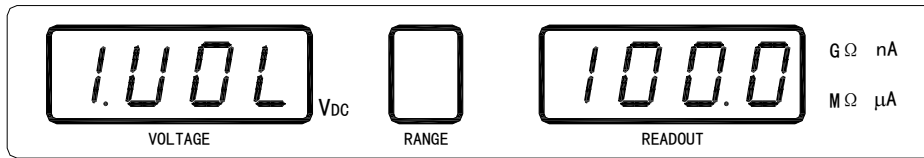

Figure 3-9 Main Setup Menu
- 1) Press **SET/ENTER** key in the discharge status to enter the main setup menu as shown in the following figure 3-9.